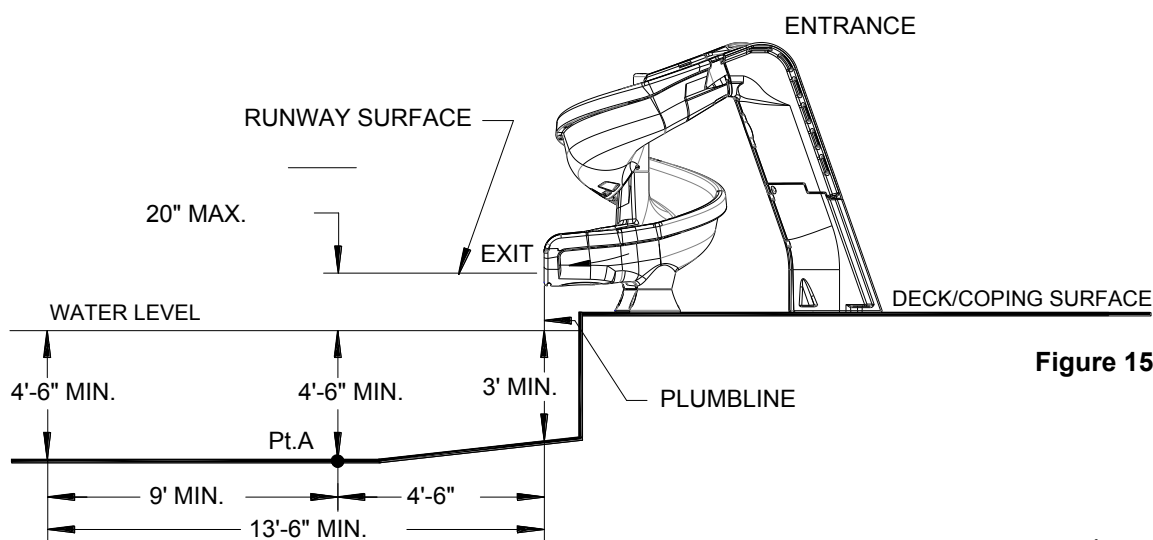

Figure 15
1. The critical dimensions for placement of the Helix are as shown in Figures 15 and 16.
- A. The slide exit runway surface shall not exceed twenty inches (20") (508 mm) above the water surface as shown in Figure 15.
- C. The minimum depth of water below the exit lip of the slide shall be three feet (3') (914 mm) and increase to four feet six inches (4'-6") (1371 mm) at Pt. A, which is a distance of four feet six inches (4'-6") (1371 mm) from the exit lip of the slide as shown in Figure 15.
- D. A minimum depth of four feet six inches (4'-6") (1371 mm) shall be maintained at a distance of nine feet (9') (2743 mm) along the extended centerline of the slide from Pt. A. as shown in Figure 15.